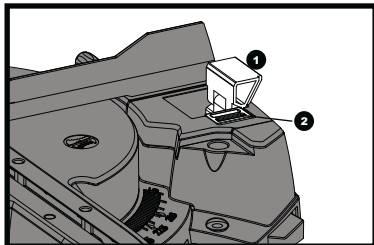

Fig 39
Turn the adjustment knob (3) clockwise or counter clockwise as required for final exact positioning of the stop plate. (See fig. 39)
With the stop plate in its stored position the extension arm can be used to support long workpieces. (See fig. 39)